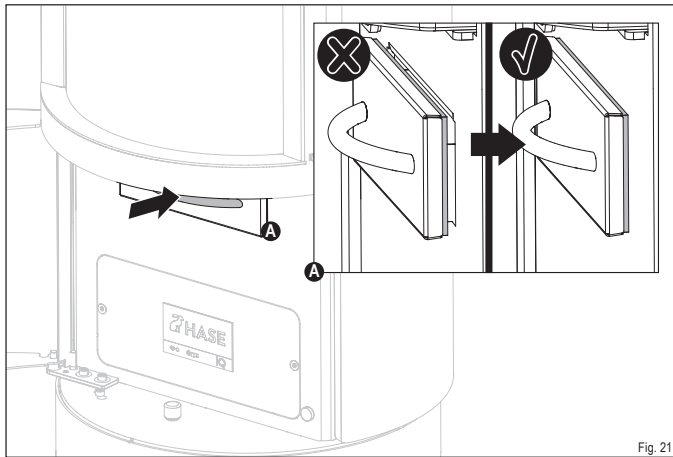

Fig. 21
When sliding in the ash drawer, ensure it is flush with the seal (Fig. 21). This ensures the burning process is not disturbed by false air.
- ✓ Slide the ash drawer back into the opening so it is flush with the seal (Figure 21).
- ▶ Slide the ash drawer back into the opening (Fig. 21).